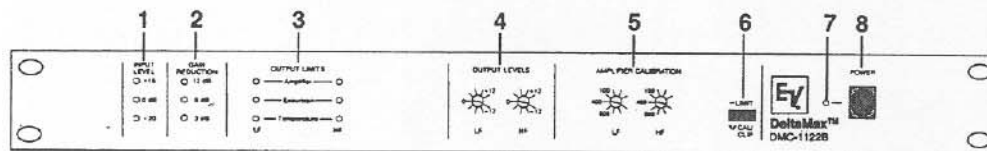

**FIGURE 6 - DMC-1122B/DML-1122A**
| <p>Frequency Response, Measured in Farfield, Calculated to One Meter on Axis, Swept One-Third-Octave Pink Noise, One Watt into LF Midband (2.83 V at 250 Hz), Anechoic environment, ±3 dB (see Figure 2):67-20,000 Hz</p> <p>Sound Pressure Level at One Meter, One Watt Input Power, Anechoic Environment, Band-Limited Pink-Noise Signal,High Frequency:110 dBLow Frequency:98 dB</p> <p>Typical System Maximum Continuous Sound Pressure Levels at One Meter, Anechoic Environment:123 dB</p> <p>Typical System Maximum Peak Sound Pressure Levels at One Meter, Anechoic Environment:129 dB</p> <p>Crossover Frequency:1,250 Hz</p> <p>Beamwidth Angle Included by 6-dB-Down Points on Polar Responses, Indicated One-Third-Octave Bands of Pink Noise (see Figure 4),1.0-20 kHz Horizontal:80° (+25°, -20°)</p> | <p>3.8-20 kHz Vertical:55° (+25°, -5°)</p> <p>Directivity Factor <math>R_0</math> (Q) 1.0-20 kHz Median (see Figure 5):10.6 (+9.3, -4.0)</p> <p>Directivity Index <math>D_0</math>, 1.0-20 kHz Median (see Figure 5):9.8 dB (+3.2 dB, -1.6 dB)</p> <p>Distortion, 115 dB SPL at One Meter, Shaped Spectrum (see Figure 6),Second Harmonic100 Hz:4.5%800 Hz:0.8%2,000 Hz:0.7%5,000 Hz:1.6%</p> <p>Third Harmonic100 Hz:0.9%800 Hz:1.8%2,000 Hz:0.9%5,000 Hz:1.6%</p>   |